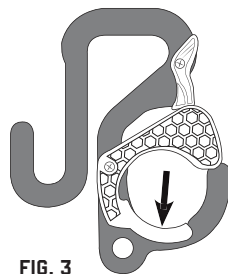

FIG. 3
- Once connected, the weight of the equipment will force the "lock loading point" down locking the gate in place (FIG 3).